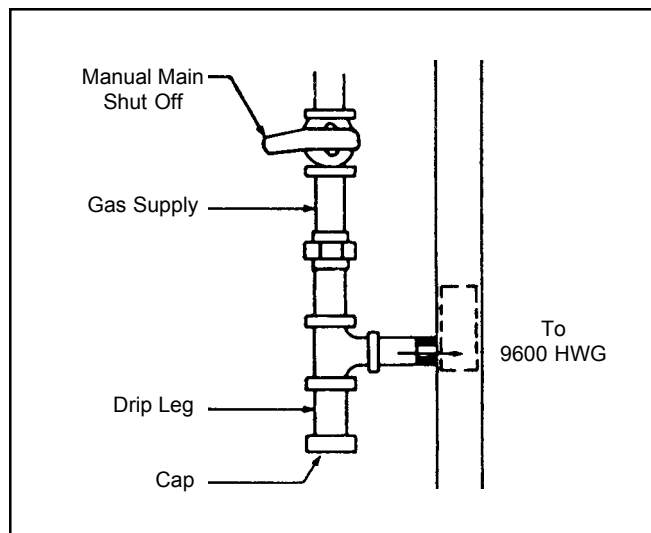

Figure 5. Gas supply piping.
5. Install drip leg and ground joint union (see Figure 5).